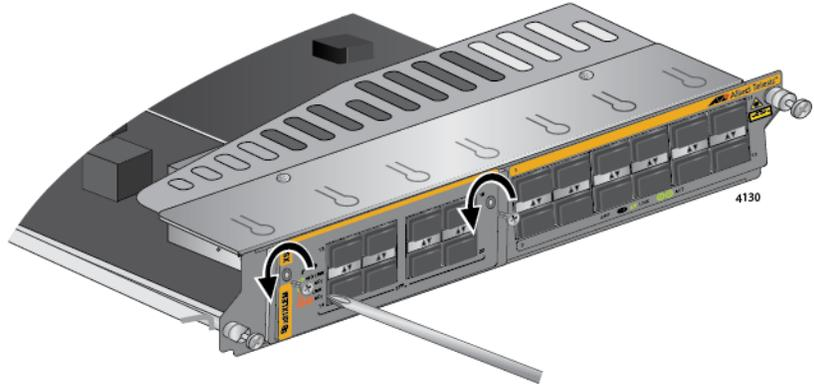

Figure 161. Removing the Screws from the Expansion Module
3. With a Phillips-head screwdriver, remove the two screws that secure the expansion module to the line card. Refer to Figure 161 on page 256.